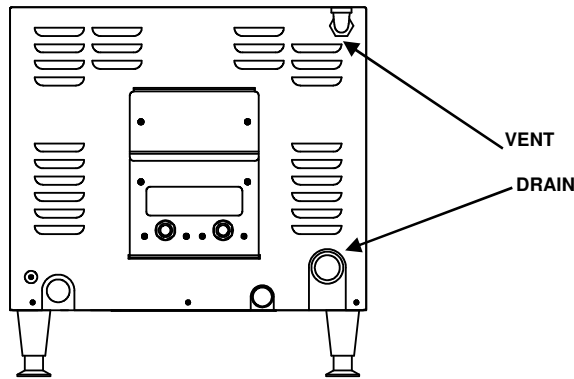

Figure 3-7
1. Using pipe thread sealant (not provided), install the provided brass street ell into the bulkhead fitting on the rear of the 22CET. See Figure 3-7.